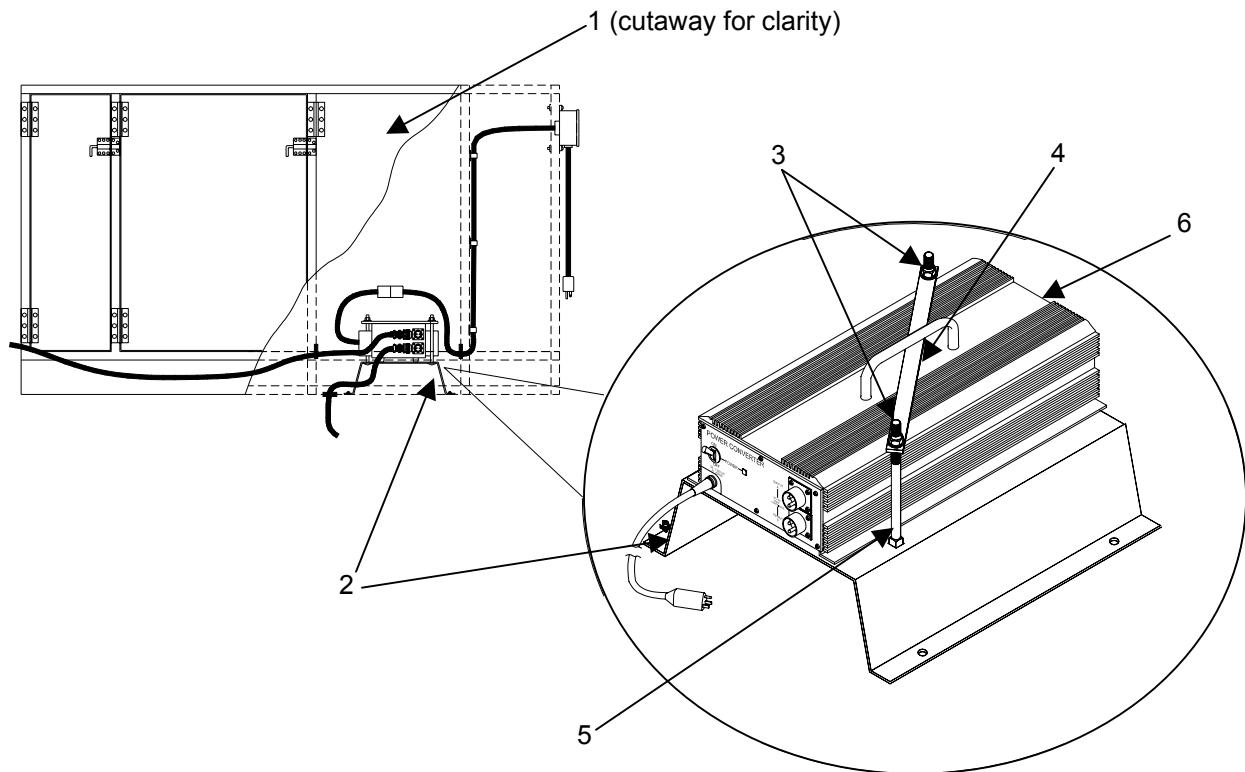

Figure 2. Power Converter Mounting Bracket with Power Converter Installed
1. Open the MKT Cooling Cabinet door (**figure 2, item 1**) and remove the cooling trays. Locate the Power Converter Mounting Bracket (**figure 2, item 2**) on the floor of the cooling cabinet.
2. Remove the two self locking nuts (**figure 2, item 3**) and slide the retaining bar (**figure 2, item 4**) off the shafts (**figure 2, item 5**).
3. Place the Power Converter (**figure 2, item 6**) on the mounting bracket (**figure 2, item 2**) with the front of the converter facing the front of the cabinet. Push the converter all the way to the back of the cabinet.
4. Place the retaining bar (**figure 2, item 4**) through the handle of the power converter (**figure 2, item 6**) and over the two mounting bracket shafts (**figure 2, item 5**). Be sure to keep the bar level while sliding over the shafts to prevent binding.
5. Install the two self locking nuts (**figure 2, item 3**).